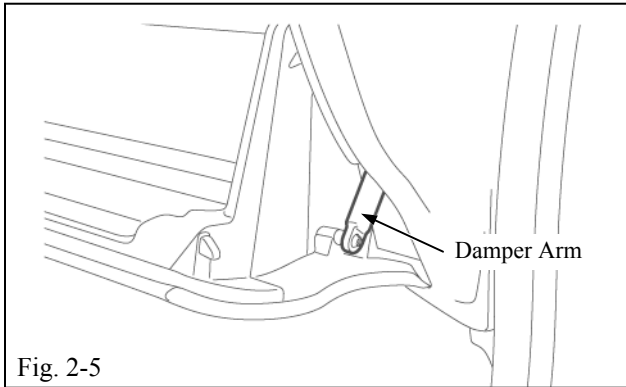

Fig. 2-5
- (1) Remove damper arm from glove box door. (Fig. 2-5)